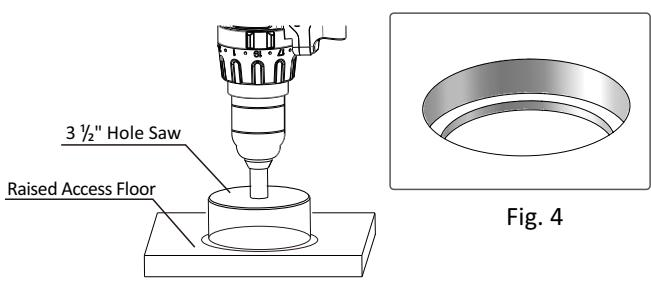

Fig. 3
3. Center a 3 1/2" hole saw in the 4 inch opening and cut through all the remaining layers of flooring (Fig. 3). Remove any extra material to create a clean lip for the #812-DA box to rest on (Fig. 4).